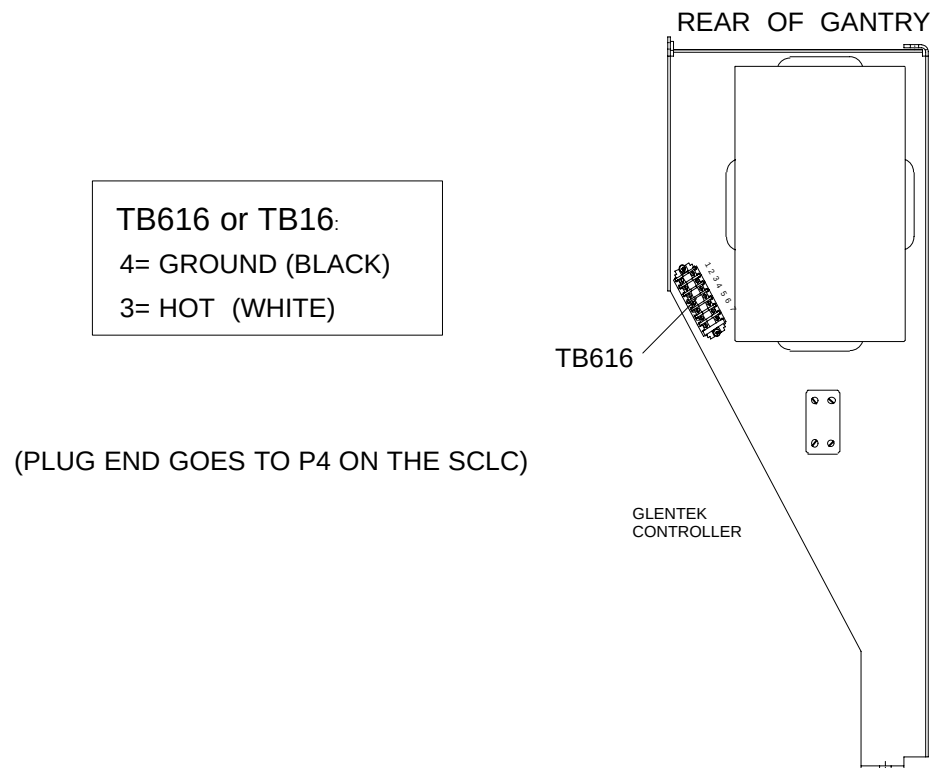

FIGURE 135 SCLC CABLE HOOKUP TO TB616
6. Make connections of special cable according to above display. Refer to Figure 135 for detail. Make sure cable is not within scan frame. After rotating the scan frame ccw at approx. 6 sec/rev, the following will be displayed: